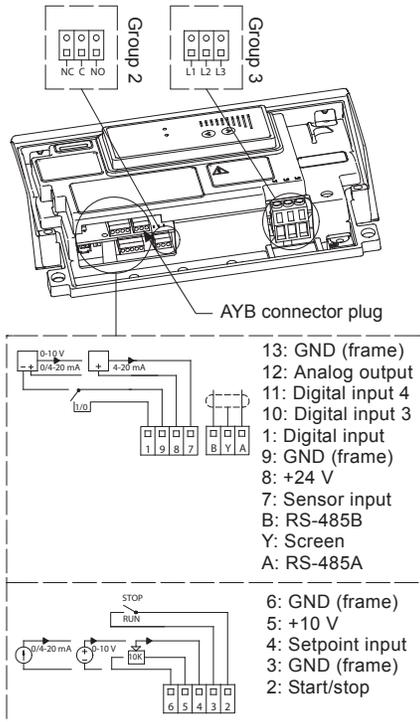

Fig. 37 AYB connector plug
- d. Remove the "AYB" connector plug from the first MLE motor (see fig. 37).